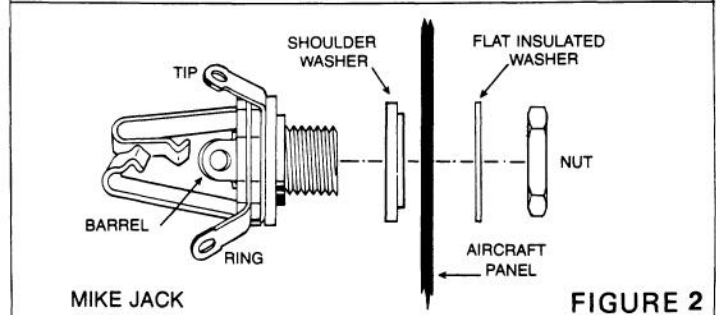

FIGURE 2
3. Drill 1/2" diameter holes for mike jacks and install with insulating washers supplied. (See Figure 2)
4. Terminals on the stereo phone jacks may be identified per the mike jack shown in Figure 2. The phone jack bushings (sleeve terminal) must be grounded to airframe or wired to aircraft ground.
5. Replace headphone jacks with three-terminal type "stereo" jacks supplied with the RES-400 switcher. Connect wires to the stereo jacks per Figure 3. Terminals on the stereo phone jacks may be identified per the mike jack shown in Figure 2. The jack bushings (barrel terminal) must be grounded to the airframe or wired to aircraft ground.